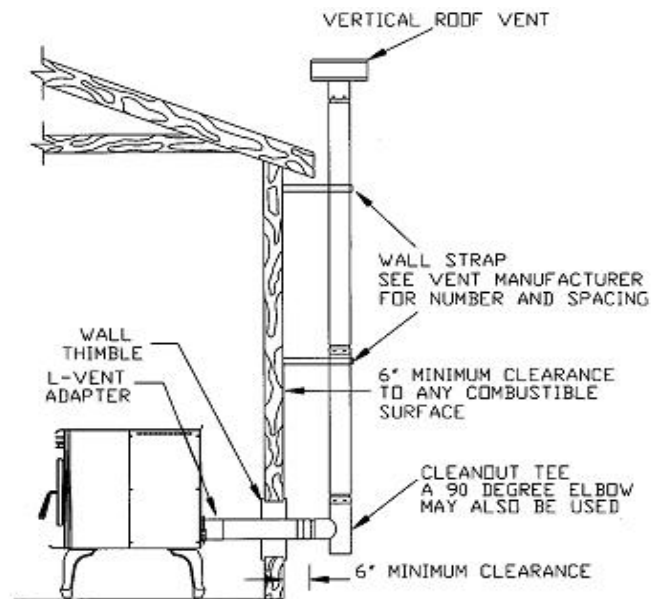

FIGURE 9
B. HORIZONTALLY THROUGH WALL (refer to Figure 9)